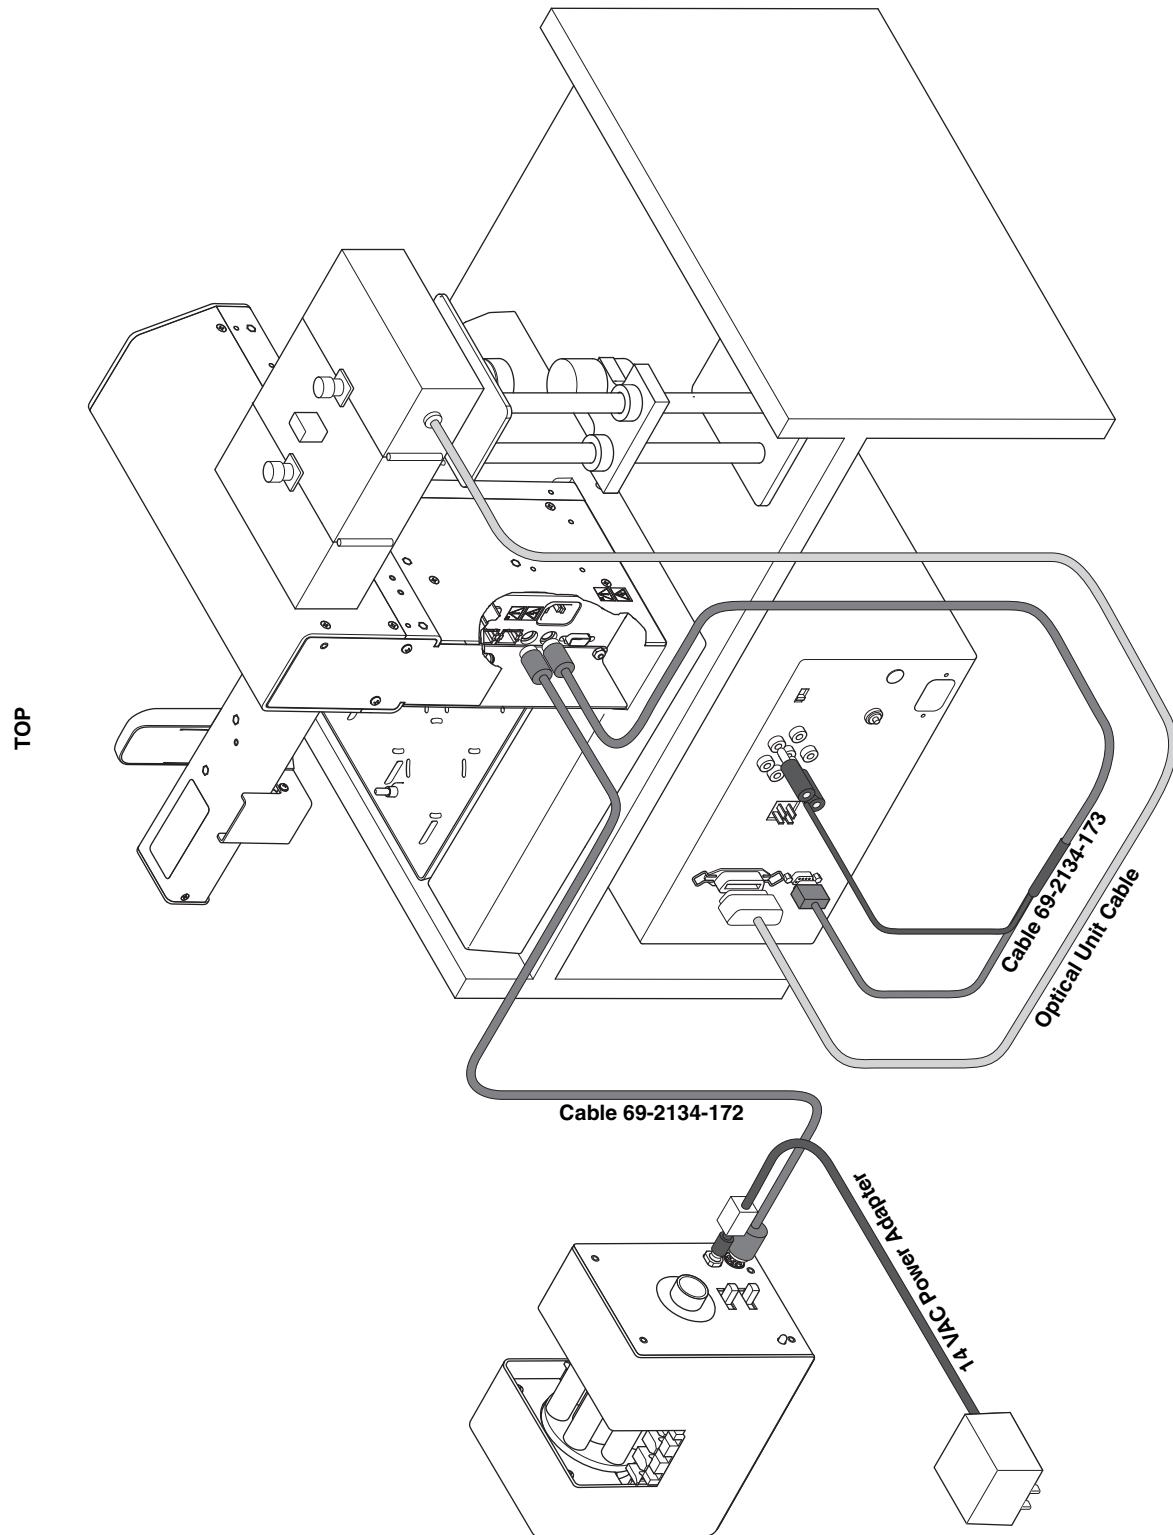

Figure 2-2 System connections with a Foxy R1 fraction collector (rotated view)
(Figure 2-2)*
1. Position system components on the organizer shelf as shown in Figure 2-2.